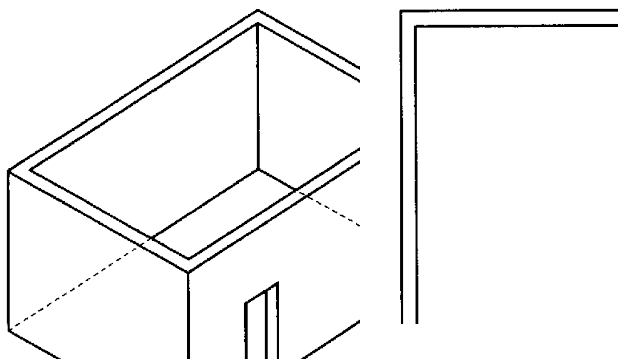

Figure 1 - Enclosure with walls on all sides but
- An enclosure with walls on all sides, but at least one permanent opening at ground level and no overhead cover. See Figure 1.